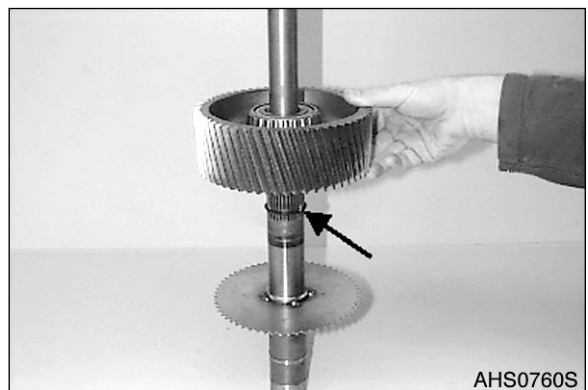

Figure 96
3. Separate spur gear from the shaft and squeeze circlip out (Figure 96).